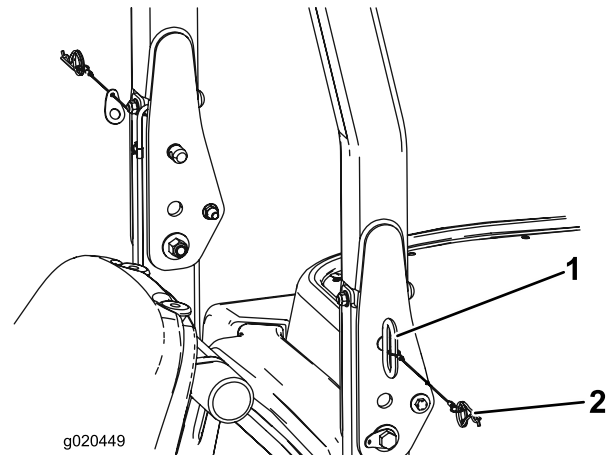

Figure 30
1. To lower the roll bar, remove the hairpin cotters and the two pins (Figure 30).